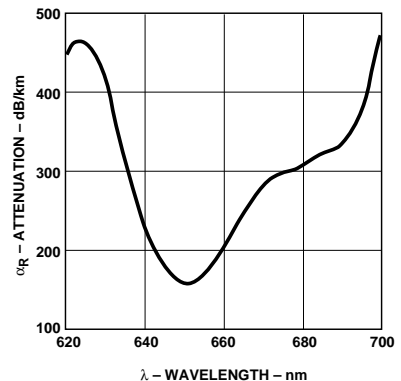

Figure 1. Typical POF Attenuation vs. Wavelength.
- Note that α_R rises at the rate of about 0.0067 dB/°C, where the thermal rise refers to the LED temperature changes above 25°C . Please refer to Figure 1 which shows the typical plastic optical fiber attenuation versus wavelength at 25°C .